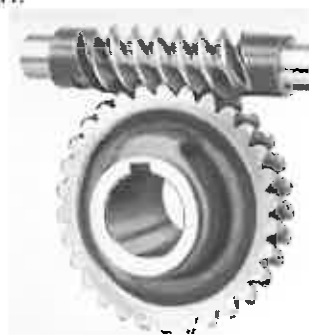

Figure 3
- 3.1 Identify the mechanism Figure 3 and explain its most important feature by referring to an application. (4)